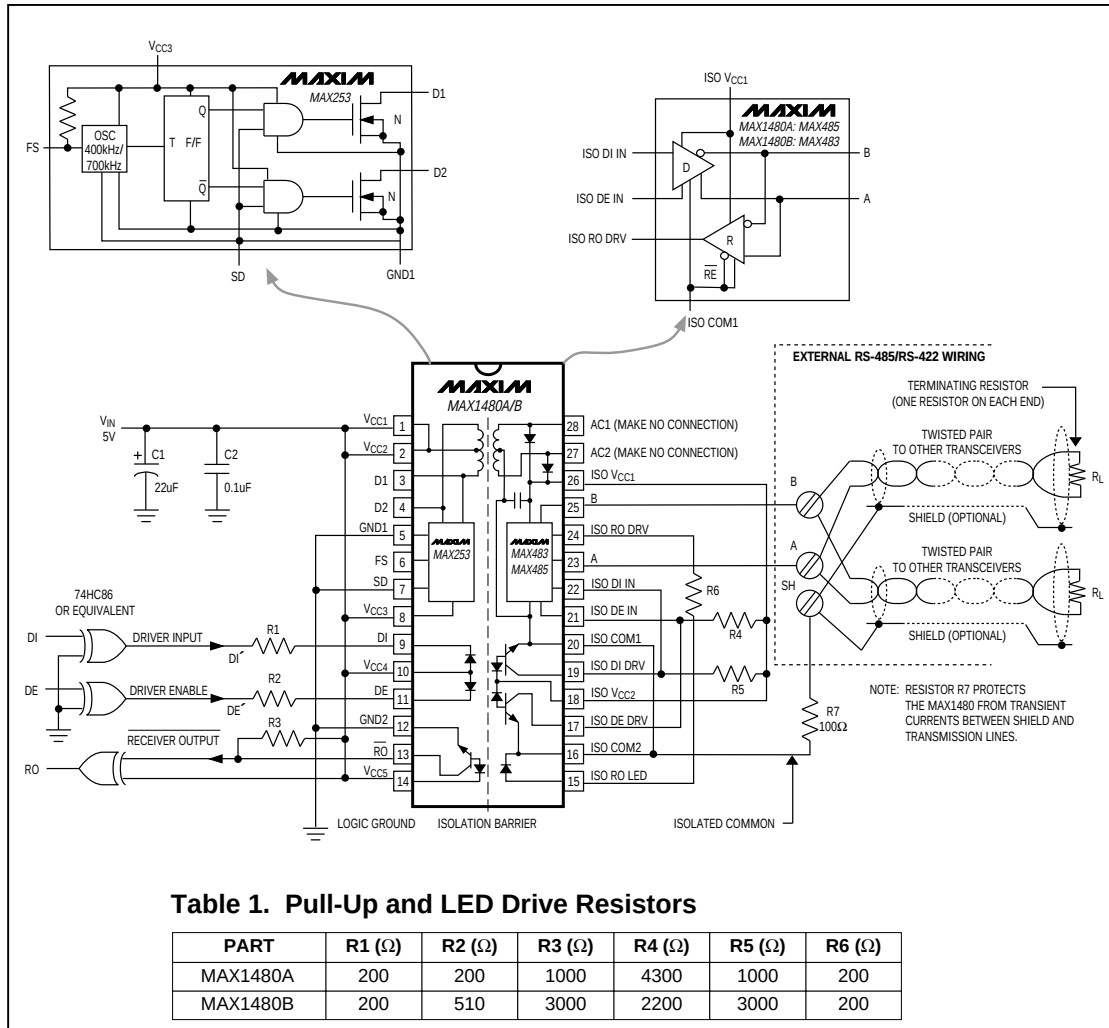

Figure 1. MAX1480A/MAX1480B Detailed Block Diagram and Typical Application Circuit
Note: For DE⁺ and DI⁺ pin descriptions, see *Detailed Block Diagram and Typical Application Circuit* (Figure 1 for MAX1480A/B, Figure 2 for MAX1490A/B).
The MAX1480A/MAX1480B/MAX1490A/MAX1490B are complete, electrically isolated, RS-485/RS-422 data-communications interface solutions. Transceivers, optocouplers, a power driver, and a transformer in one standard 28-pin DIP package (24-pin for the MAX1490A/B) provide a complete interface. Signals and power are internally transported across the isolation barrier (Figures 1, 2). Power is transferred from the logic side (non-isolated side) to the isolated side of the barrier through a center-tapped transformer. Signals cross the barrier through high-speed optocouplers. A single +5V supply on the logic side powers both sides of the interface. The MAX1480A/B offer half-duplex communications while the MAX1490A/B feature full-duplex communication. The functional input/output relationships are shown in Tables 3–6.
* For DE⁻ and DI⁻ pin descriptions, see *Detailed Block Diagram and Typical Application Circuit* (Figure 1 for MAX1480A/B, Figure 2 for MAX1490A/B).
The MAX1480A/MAX1480B/MAX1490A/MAX1490B are specified and characterized using the resistor values shown in Table 1 of Figure 1 and Table 2 of Figure 2. Altering the recommended values can degrade performance.
The isolated common may be completely floating with respect to the logic ground and the effective network ground. The receiver input resistors will cause the isolated common voltage to go to the mean voltage of the receiver inputs. If using shielded cable, tie the isolated common to the shield through a 100Ω resistor. In the case of the MAX1490, each shield should have its own 100Ω resistor (Figures 1, 2, 13, and 14).